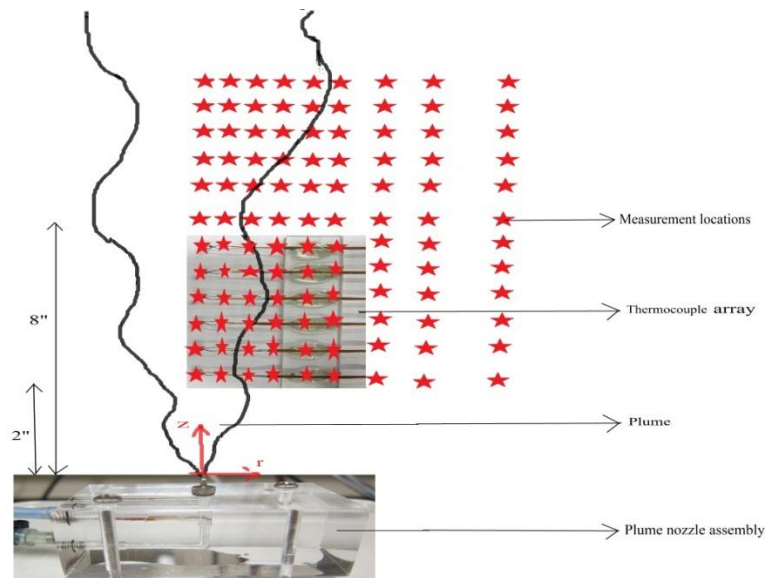

Figure 1. Diagram showing plume experimental setup. Stars indicate points of measurement using the thermocouple array as explained in the text.
The experiment consists of a plume produced by warm water injected at the bottom of a tank of quiescent room-temperature water (Fig. 1). The flow physics of the plume is controlled by the excess buoyancy (temperature excess against the background) and the momentum flux (controlled by a pump) at the plume nozzle exit. Morton length scale ( $L_M$ , Eq. 5) defines the relative strength of momentum and buoyancy fluxes at the nozzle exit, and it dictates the characteristics and structures of the plume. For smaller  $L_M$  the plume is dominated by momentum, known as jet, and its centerline reduced gravity (Eq. 6) decreases linearly with the distance from the nozzle. For higher  $L_M$  the plume is dominated by buoyancy, known as buoyant plume, and its centerline reduced gravity decreases as  $z^{-5/3}$ , where  $z$  is the distance from the nozzle.
- e) **Refer to figure 1.** Start taking measurements with the lowest thermocouple at 3” from the nozzle exit at X position 0.0, 0.1, 0.2, 0.3, 0.4, 0.5, 0.7, 0.9, 1.2 inches. Wait for at least 15 seconds when you move the thermocouple array to a new position before taking measurements. When you click the Read button on the VI the thermocouple array will be scanned at 10 Hz for 2000 samples. The scan will take a little over 3 minutes to complete. When completed you will be prompted to save your data. Enter a filename and save. Use the same file for all measurements; subsequent scans will be appended to the existing file. Following the 1.2” scan, move the thermocouple array up by 5”, so that lowest thermocouple is at 8”. Take measurements at 1.2, 0.9, 0.7, 0.5, 0.4, 0.3, 0.2, 0.1, 0.0 inches.